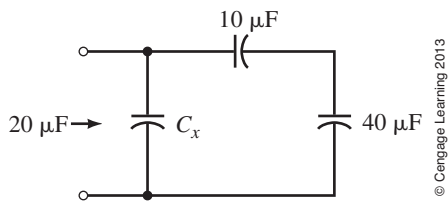

FIGURE 10-35
42. A dc source is connected to terminals $a-b$ of Figure 10-35. If C_x is $12 \mu\text{F}$ and the voltage across the $40\text{-}\mu\text{F}$ capacitor is 80 V,